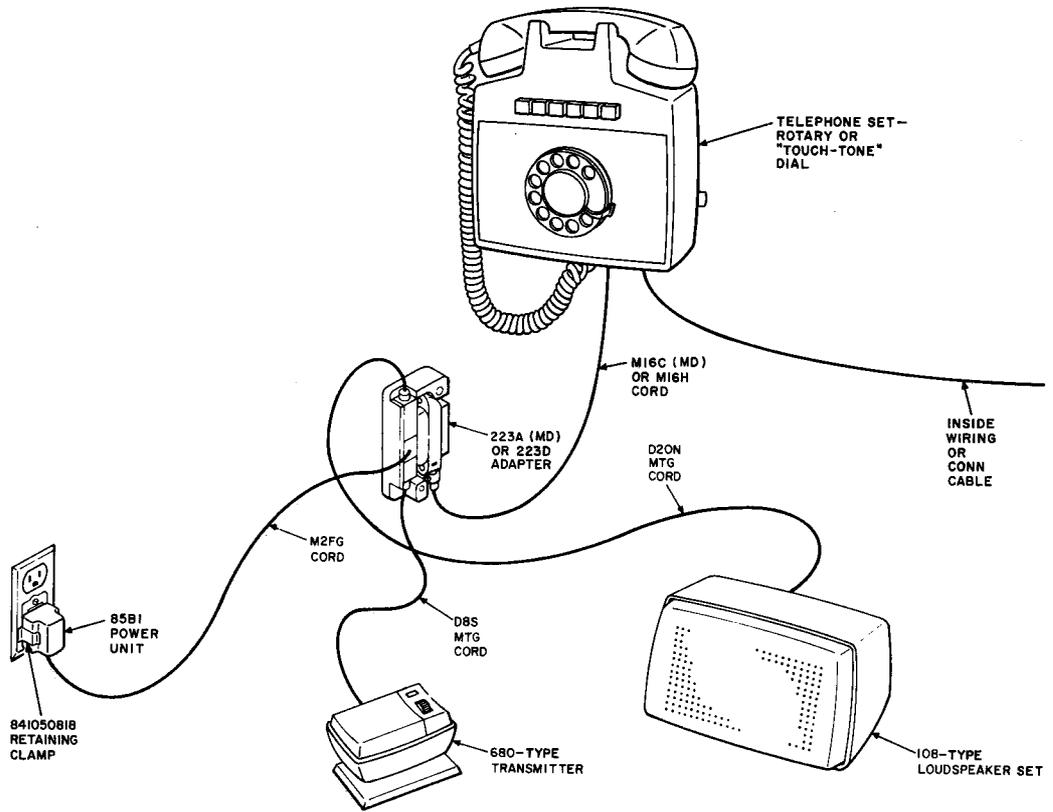

Fig. 1—4A Speakerphone System Arrangement, 6-Button Wall Telephone Set
2.09 Power can be provided by making connections as shown in Fig. 1, 2, and 3.